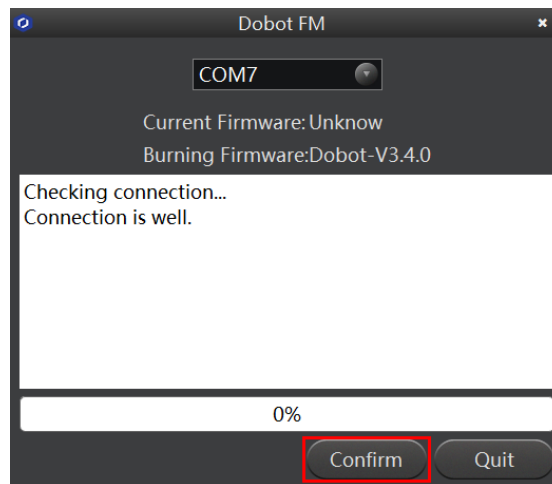
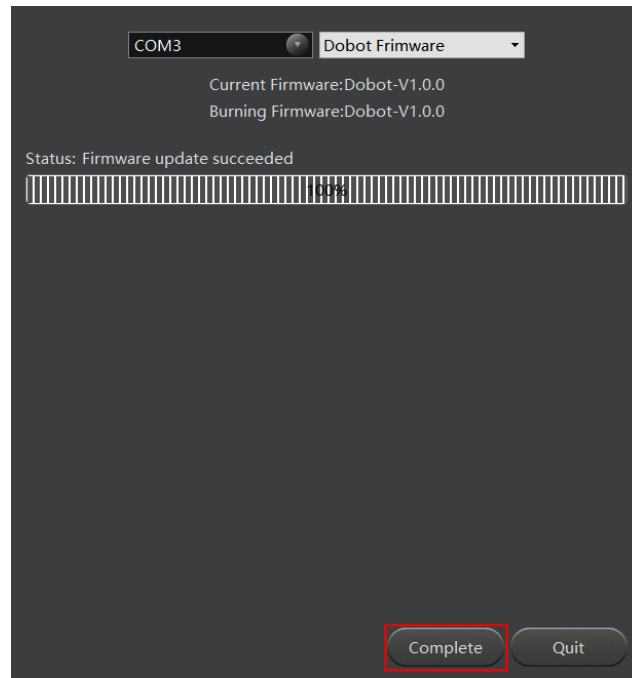

Figure 5.64 Click **Confirm**
Figure 5.65 The firmware upgrade is successful
3. Click **Confirm** to upgrade the Dobot firmware, as shown in Figure 5.64. When the upgrade process bar shows 100% and a short beep sound is heard, it means that the firmware is upgraded successfully, as shown in Figure 5.65. In this case, the LED indicator turns from red to green. Then click **Complete** to exit.